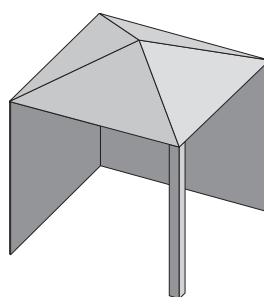

Fig. 2
- » The sidewalls may be parallel, as in a breezeway, or at right angles to each other. **(Fig 2 & Fig 3)**